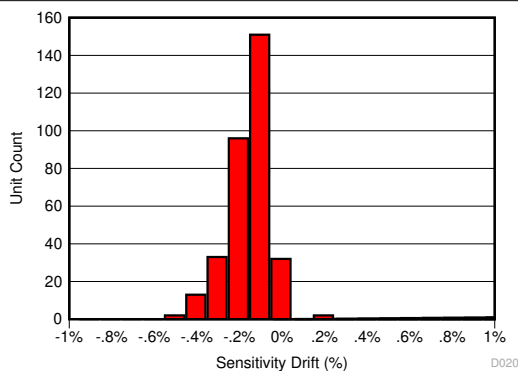
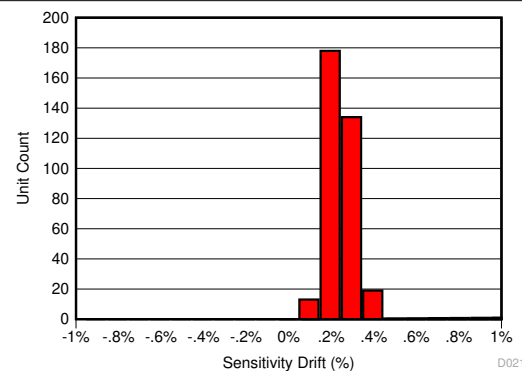
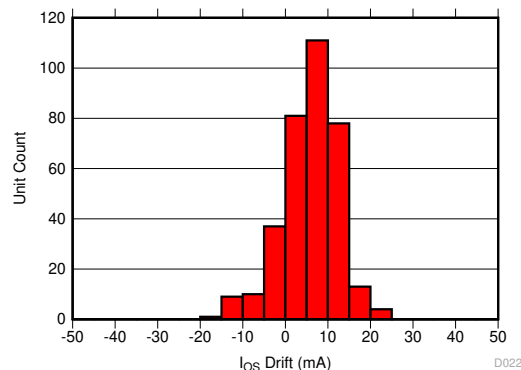

图 9-1. Sensitivity Error After 130°C, 85% RH HAST
图 9-2. Sensitivity Error Drift After AEC-Q100 High Temperature Operating Life Stress Test
图 9-3. Input-Referred Offset Drift After AEC-Q100 High Temperature Operating Life Stress Test
The same compensation techniques utilized in the TMCS1108-Q1 to reduce temperature drift also greatly reduce lifetime drift due to aging, stress, and environmental conditions. Typical magnetic sensors suffer from up to 2% to 3% of sensitivity drift due to aging at high operating temperatures. The TMCS1108-Q1 has greatly improved lifetime drift, as defined in the Electrical Characteristics table for total sensitivity error measured after the worst-case stress test during a three lot AEC-Q100 qualification. All other stress tests prescribed by an AEC-Q100 qualification caused lower than the specified sensitivity error, and were within the bounds specified within the Electrical Characteristics table. 图 9-1 shows the total sensitivity error after the worst case stress test, a Highly Accelerated Stress Test (HAST) at 130°C and 85% relative humidity (RH), while 图 9-2 and 图 9-3 show the sensitivity and offset error drift after a 1000 hour, 125°C high temperature operating life stress test as specified by AEC-Q100. This test mimics typical device lifetime operation, and shows the likely device performance variation due to aging is vastly improved compared to typical magnetic sensors.